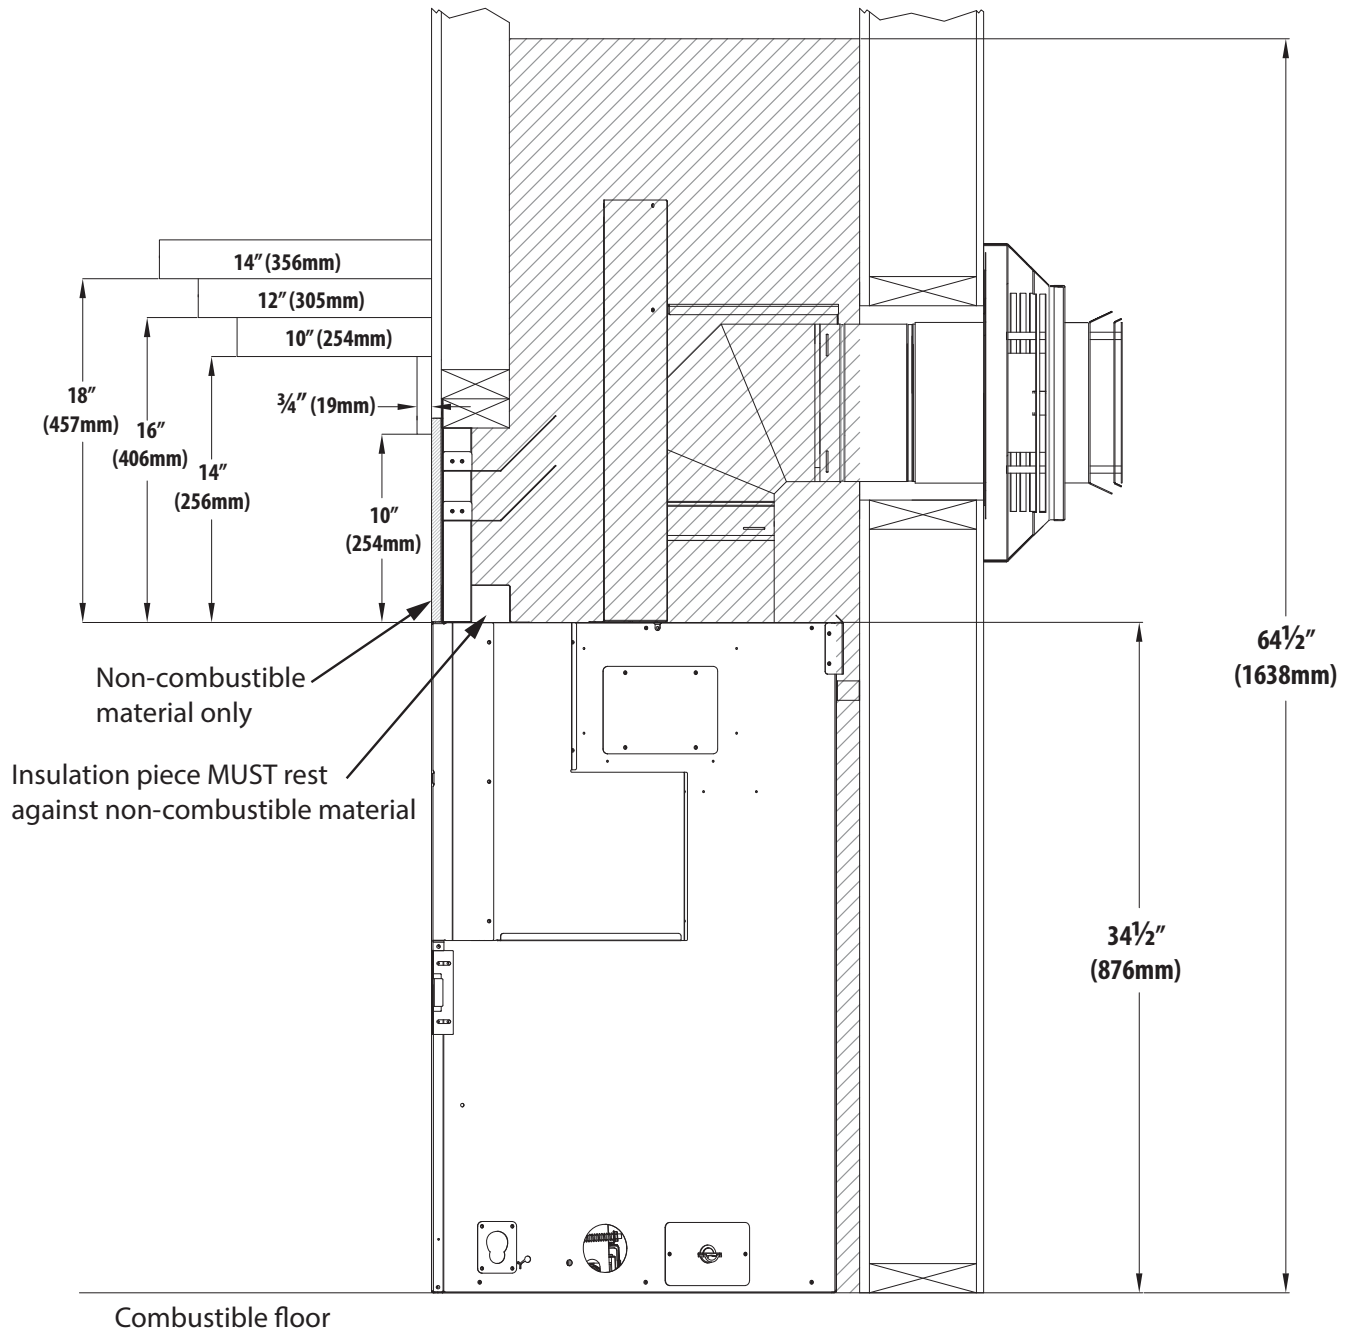

Figure 4.1, Combustible Mantel Requirements
- **Combustible Mantel Projections** - As referenced in Figure 4.1, the 3/4" trim mantel can start at 10" (254mm) above the top of the appliance with a 10" (254mm) mantel starting at 14" (354mm) above the top of the appliance. Mantel projections can increase 1" (25mm) of depth for every 1" (25mm) of height starting at the 10" (254mm) mantel.